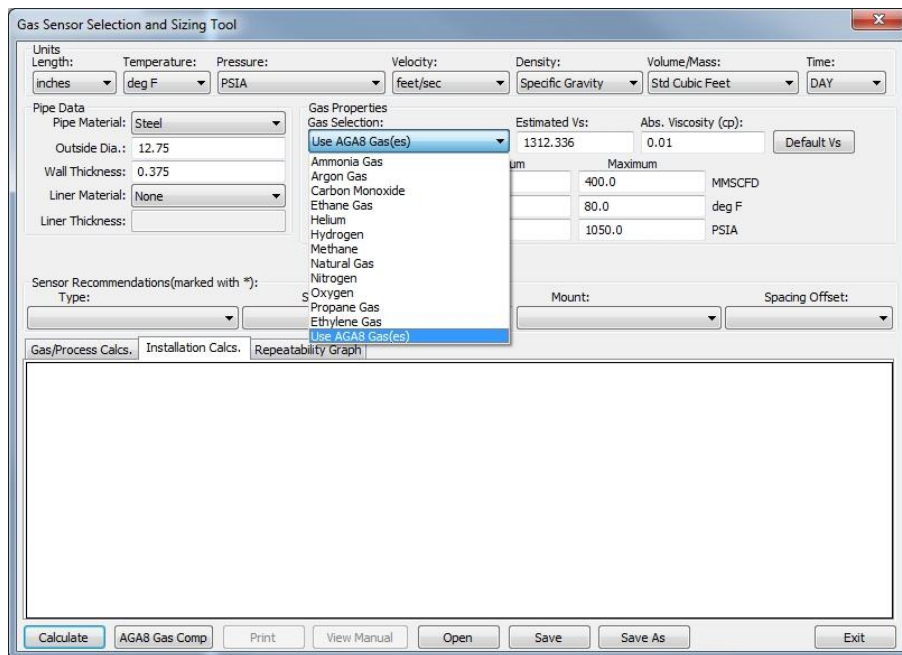

Figure 6-9 AGA8 Selection
1. Select [Use AGA8 Gas(es)] from the [Gas Selection] drop down menu. This will activate the [AGA Gas Comp] button at the bottom of the screen; see Figure 6-9 Below